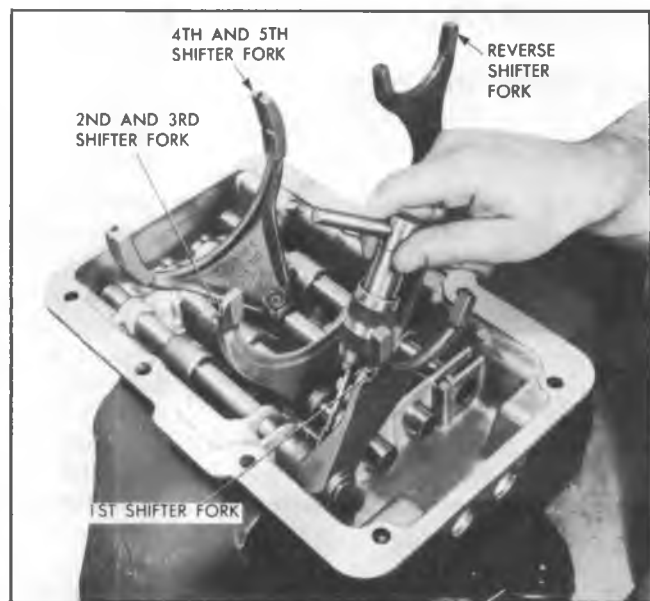

Fig. 4NP-Removing Retaining Pin
- Using a square edged "easy-out," remove the pin retaining the 1st shifter fork and shifter head to shifter shaft (fig. 4NP).